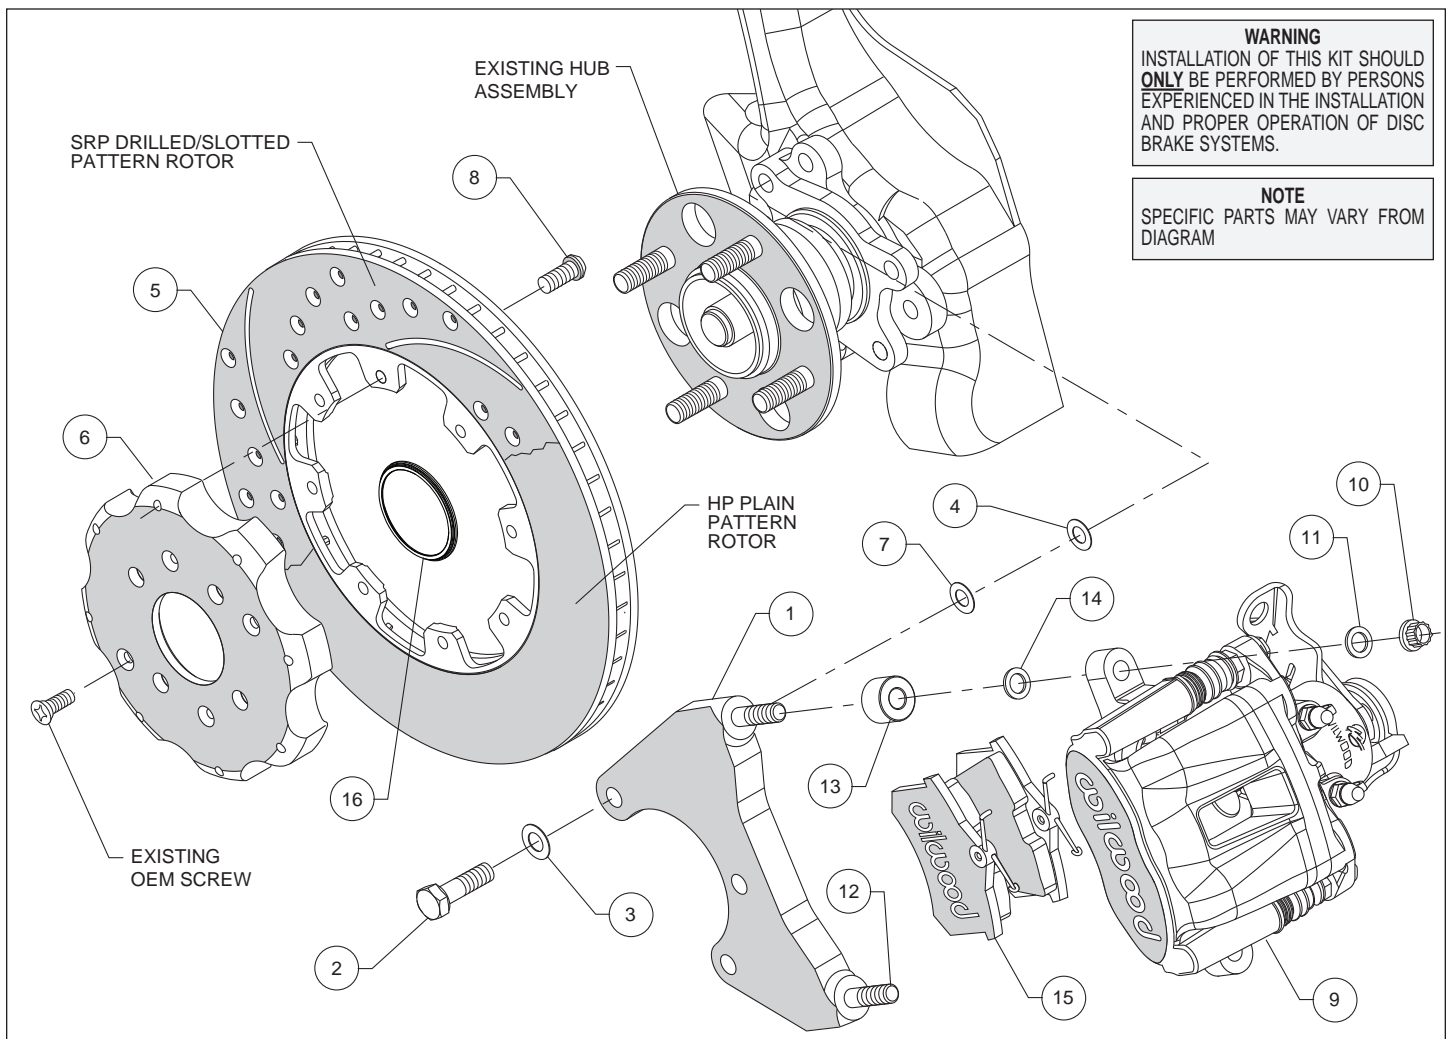

Figure 1. Typical Installation Configuration
- The caliper mounting bracket (1) should initially be installed with clean, dry threads on the mounting bolts. Orient the bracket as shown in Figure 1, and install using bolts (2) and washers (3). Initially place two .030" thick shims (7) between the bracket and upright, Figure 1 and Photo 1. Temporarily tighten the mounting bolts. **NOTE:** *The bracket must fit squarely against the mount bosses on the upright.* Inspect for interference from casting irregularities, machining ridges, burrs, etc. Later, after the caliper alignment has been checked, the mount bolts will be secured using red *Loctite*[®] 271.
- Orient the rotor (5) and hat (6) as shown in Figure 1 and Photo 2. Attach the rotor to the hat using bolts (8). Using an alternating sequence, apply red *Loctite*[®] 271 to the threads, and torque to 25 ft-lbs.
- Slide the rotor registration adapter (16) onto the axle register on the axle hub with the smaller O.D. facing outward, Photo 3.
- Install the brake pads (15) into the caliper (9) from the bottom, with the friction material facing the rotor, until the "v" spring clip snaps into place against the anvil, as shown in Figure 1 and Photo 4. They should install easily without interference.
- Lubricate the caliper mounting studs (12) with lightweight oil. Initially place two .035" thick shims (14) and one spacer (13) on each stud as shown in Figure 1. Mount the caliper (9) onto the bracket (1) using lock nuts (10) and washers (11), Figure 1 and Photo 5. Temporarily tighten the lock nuts and view the rotor from the end of the caliper. The rotor should be centered in the caliper, Photo 6. If not, adjust by adding or subtracting shims (4 and/or 7) between the bracket and the upright. Always use the same amount of shims on each of the two mounting bolts. Once the caliper alignment is correct, remove the bracket mounting bolts (2) one at a time, apply red *Loctite*[®] 271 to the threads, and torque to 40 ft-lb.